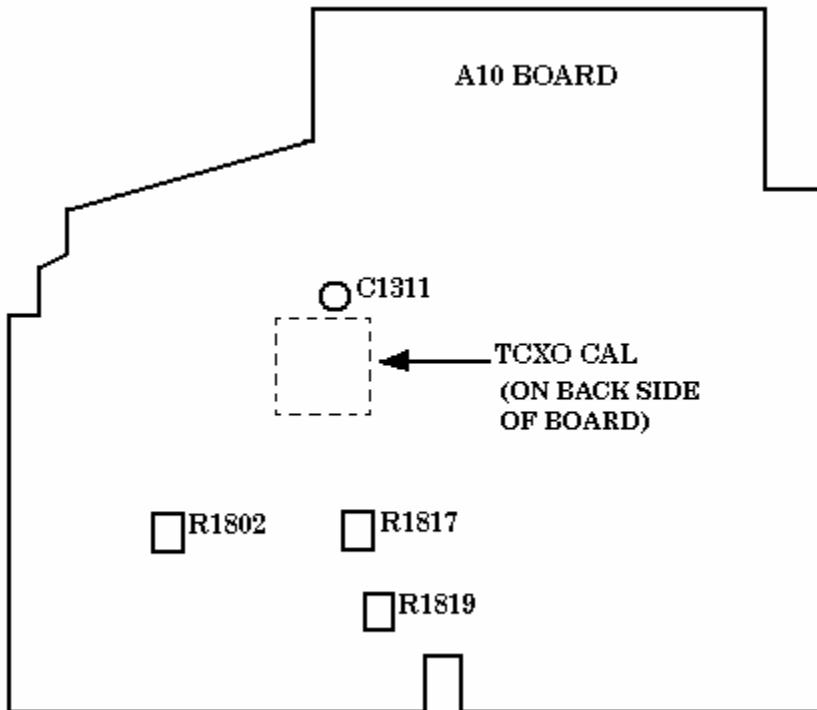
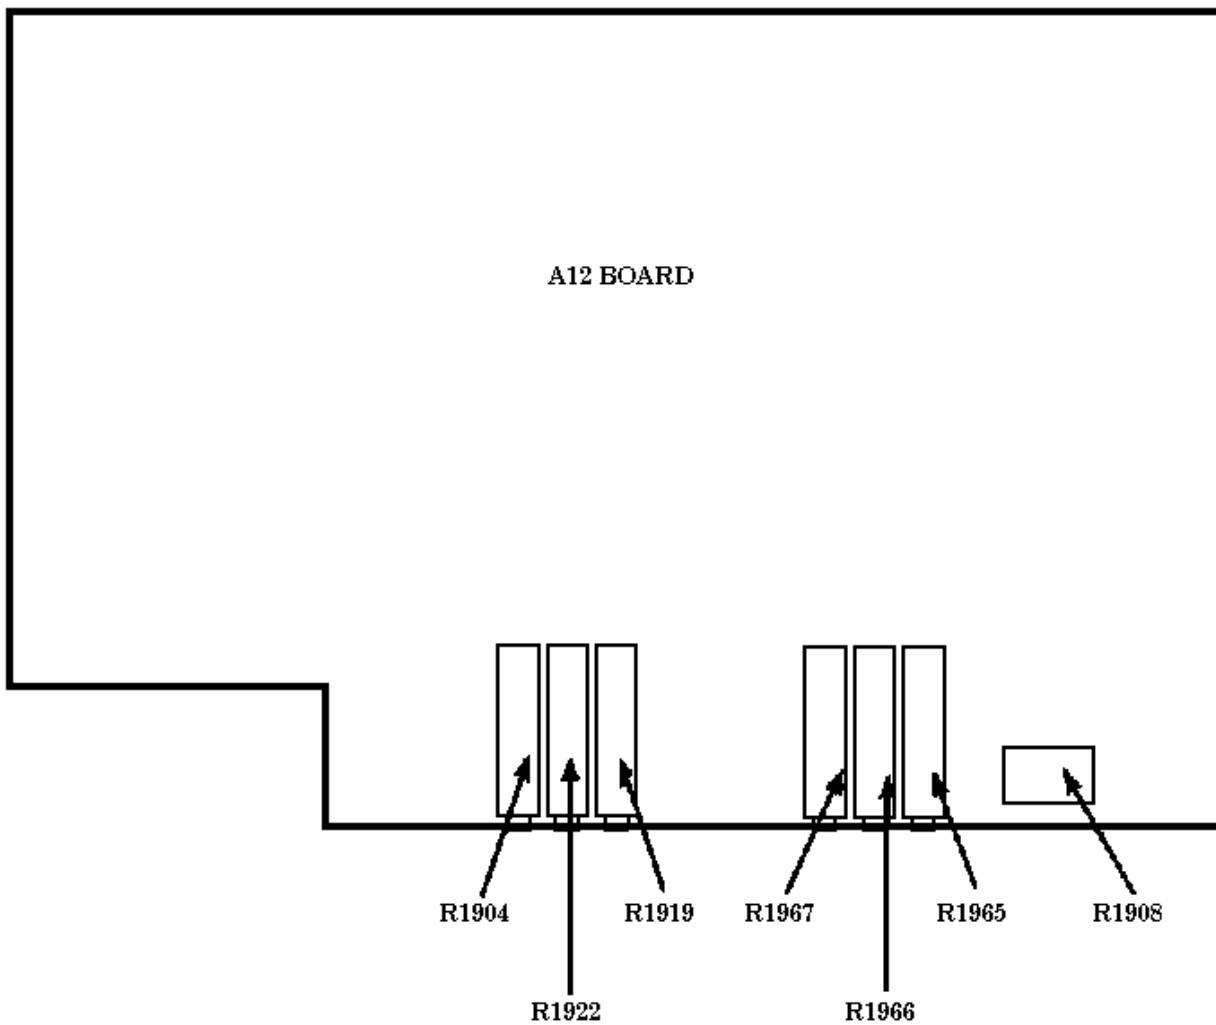

Figure 3. CTM adjustment locations.
Figure 4. A12 board adjustment locations.
- (1) Set all outputs to minimum and disconnect equipment setup.
- (2) Press TI **UPPER FUNCTIONS IN LOWER FUNCTIONS OUT** pushbutton to the **IN** position.
- (3) Press TI **PER** pushbutton.
- (4) Connect time frequency generator **J6** output (rear panel) to TI **CH 1** input.
- (5) Set time frequency for a 1 MHz output.
- (6) Adjust C1311 (2236/2236A) (fig. 3) or TCXO CAL (Option 14) (fig. 3) for a TI indication of 1.00000  $\mu$ s.
- (7) Press TI **FREQ** pushbutton.
- (8) Adjust C1311 (2236/2236A) (fig. 3) for a TI indication between 999.9991 kHz and 999.9999 kHz or adjust TCXO CAL (Option 14) (fig. 3) for a TI indication of 1.000000 MHz.
- (9) Disconnect time frequency generator **J6** output (rear panel) from TI **CH 1** input.
- (10) Set TI **HORIZONTAL MODE A ALT B** switch to **A**.
- (11) Press TI **DCV** pushbutton.
- (12) Rotate R1819 (fig. 3) to fully ccw position.
- (13) Connect a short between TI **MULTIMETER INPUTS**.
- (14) Adjust R1817 (fig. 3) for a TI indication of .0000 V.
- (15) Remove short from TI **MULTIMETER INPUTS**.
- (16) Adjust R1819 (fig. 3) for a TI indication of .0000 V.
- (17) Repeat technique of (13) through (16) above until no further improvement is noticed.
- (18) Connect calibrator **OUTPUT** terminals to TI **MULTIMETER INPUTS**.
- (19) Set calibrator for a DC output of 400 mV.
- (20) Adjust R1919 (fig 4) for a TI indication of .4000 V (R).
- (21) Set calibrator for a DC output of -400 mV.
- (22) Check TI reading is between -.3999 and -.4001.
- (23) Set calibrator output to minimum.
- (24) Press TI **UPPER FUNCTIONS IN LOWER FUNCTIONS OUT** pushbutton to the **OUT** position.
- (25) Press TI **AC RMSV** pushbutton.
- (26) Rotate R1908 (fig. 4) to fully cw position.
- (27) Connect a short between TI **MULTIMETER INPUTS**.
- (28) Adjust R1908 (fig. 4) until TI last digit is 0 and does not toggle between 0 and 1.
- (29) Remove short from TI **MULTIMETER INPUTS**.
- (30) Connect calibrator **OUTPUT** terminals to TI **MULTIMETER INPUTS**.